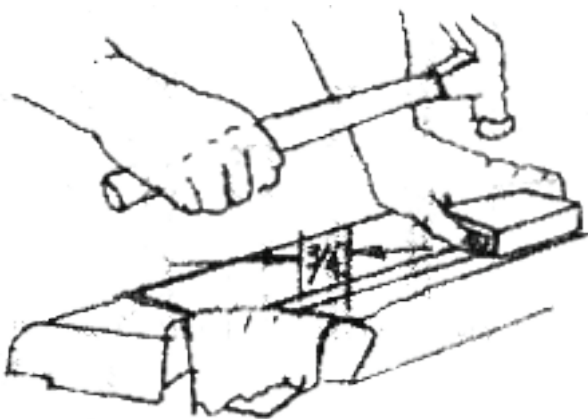

Figure 2
4. At each end of the featherstrip pull the cloth toward rubber cushion an additional 1/2" toward the cushion then tap the featherstrip down (Figure 2).